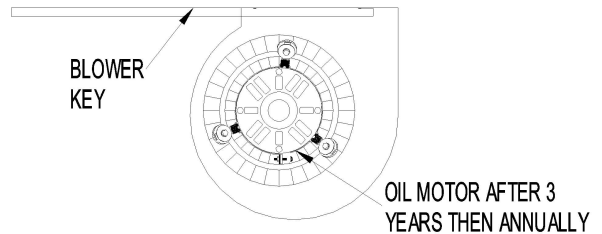

FIG. 1
3. Remove the screw (s) from the blower key. (Fig. 1)